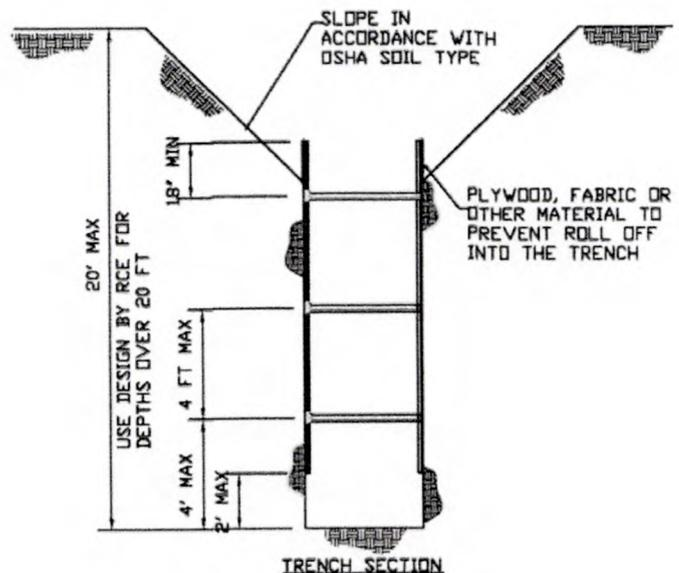

Figure 17. Trench Safety issues
- In trenches that are sloped above, extending the jack 18" above the hinge point does not provide roll off protection for workers below due to the fact that the jack is spaced. Place fabric or boards behind the jack rail to stop objects at the surface and bank ravel from falling on workers, See **Figure 17**.